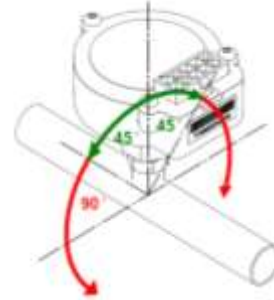
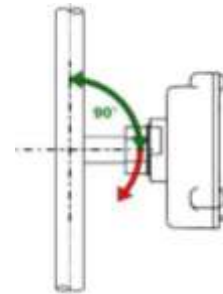

Figure 12 - USHX installation orientation on a horizontal copper line
Figure 13 - USHX installation orientation on vertical copper line
3. See Figure 12 and Figure 13 for the proper orientation of the USHX. When installing the device on a horizontal copper line as shown in Figure 12, the USHX can only be installed up to a 45° angle from the vertical axis in either direction (represented by the curved green arrows). When installing the device on a vertical copper line as shown in Figure 13, the USHX cannot be installed at a downward angle (represented by the red arrow).